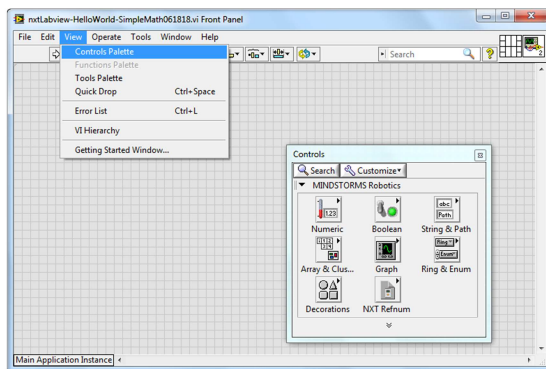
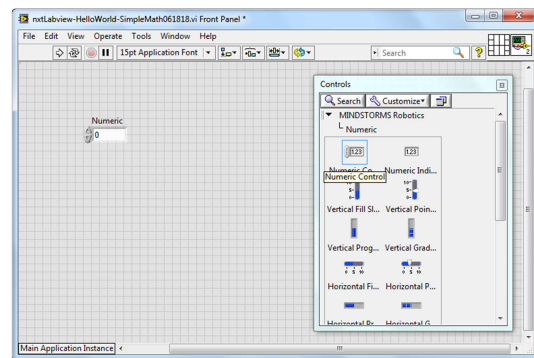
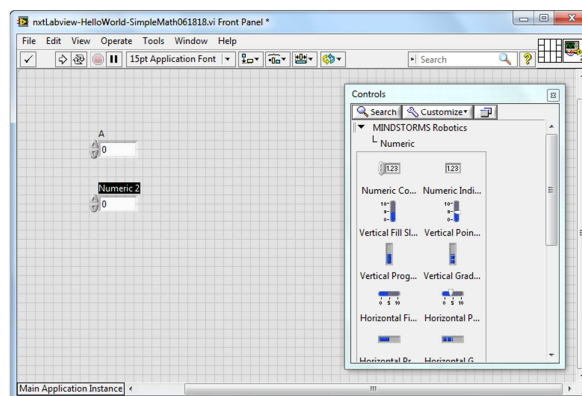

Figure 1A: On your Front Panel, click View-Controls Palette
Figure 1B: In the Control Palette, clicking Numeric reveals specific components'
Figure 1C: Two numeric controllers (labeled as A and B) were created by clicking-and-dragging "numeric controller" from the Controls palette
Step 1: Launch LabVIEW to create the following front panel (**Figure 1A** below). Save your VI as `nxtLabview-HelloWorld-SimpleMath.vi`.
On your front panel, click **View - Controls Palette** as seen in **Figure 1A** below. This pops up a Controls palette. This palette categorizes GUI components like readout displays (numeric and alphanumeric), knobs and graph charts. Clicking **Numeric** reveals specific components (**Figure 1B**).
Figure 1B shows a numeric controller that has already been dragged to the Front Panel. Numeric controllers feature up/down rocker switches. These switches allow one to control the value. This numeric controller was renamed "A". Create a second one. From the Control Palette, click-and-drag a numeric controller into the grey area of your front panel as shown in **Figure 1C**. Double-click the "Numeric" and rename it as "B"